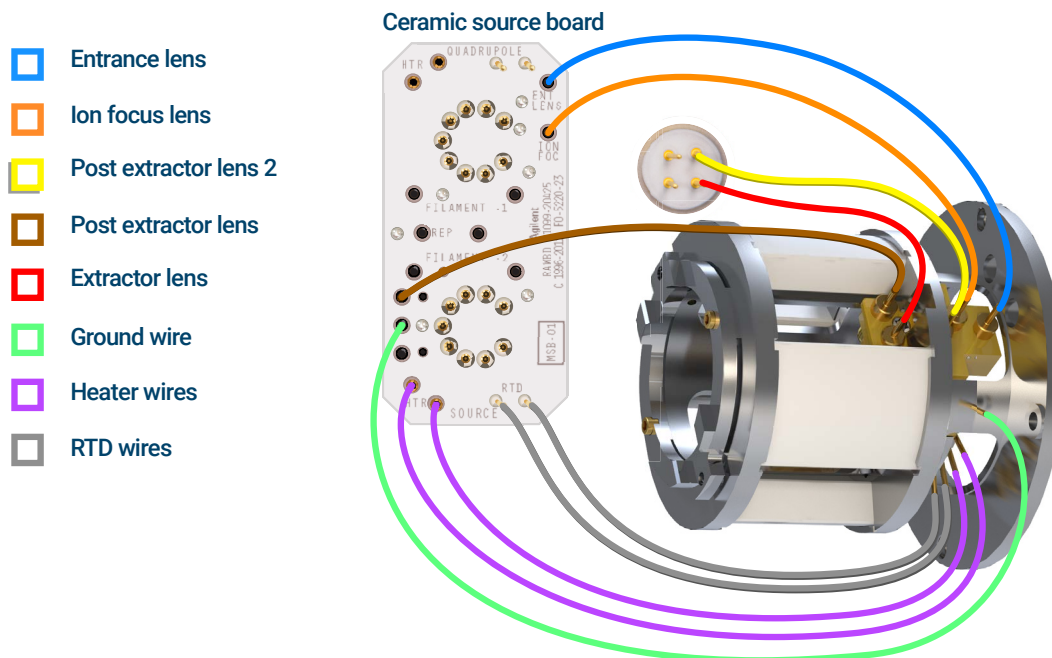

Figure 71. HES radiator wiring
- 1 Use tweezers or needle nose pliers to connect or disconnect the green ground wire and the five lens wires from the radiator. Do not bend the wires any more than necessary. (See Figure 71.)